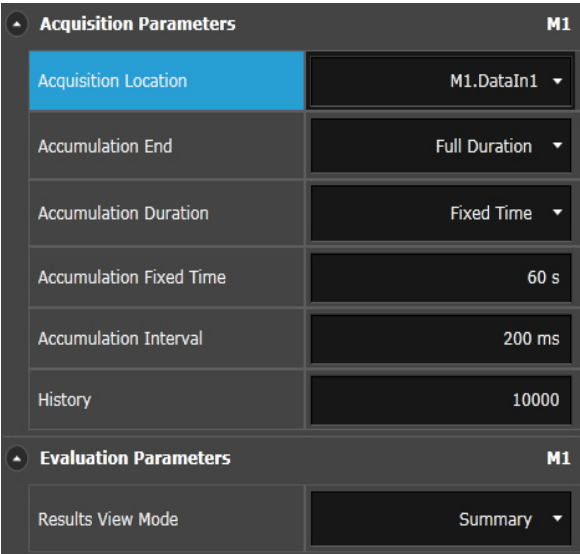

Figure 28 Acquisition parameter settings
- 18 The default acquisition parameter settings are used as shown in **Figure 28** on page -53.